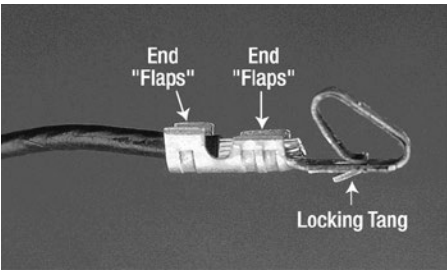

Figure 22-15. *Wire inserted into terminal with plastic insulation in end flaps and bare wire in inner flaps*
1. There are two sets of “flaps” on the metal terminal. Insert the wire into the terminal so that the bare wire is located at the inner set of flaps and the insulated portion of wire is located at the flaps on the end (see Figure 22-15). This is so that one set of flaps will be crimped over the bare wire to make an electrical connection and the other set of flaps will be crimped over the plastic insulation to mechanically hold the wire securely.